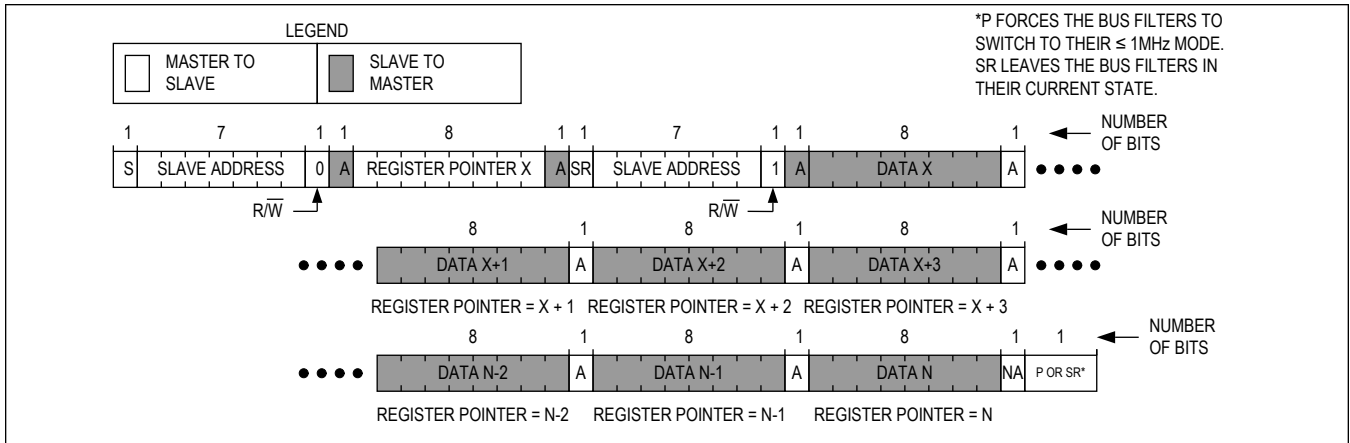

Figure 21. Reading Continuously from Sequential Registers X to N
Figure 21 shows the protocol for reading from sequential registers. This protocol is similar to the read byte protocol except that the master issues an acknowledge to signal the slave that it wants more data: when the master has all the data it requires it issues a not acknowledge (nA) and a stop (P) to end the transmission.